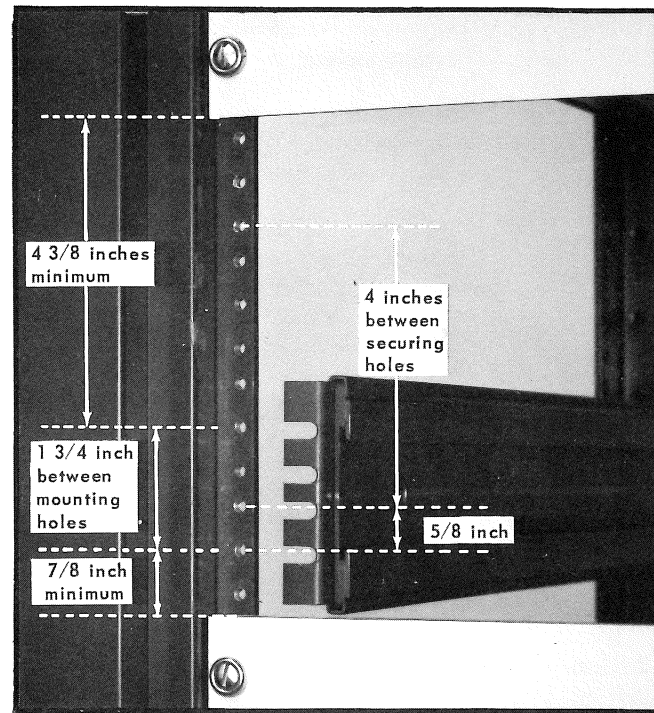

Fig. 2-14. Vertical mounting position for front end of slide-out tracks.
1. Referring to Fig. 2-14, select the proper front-rail mounting holes for the stationary sections.